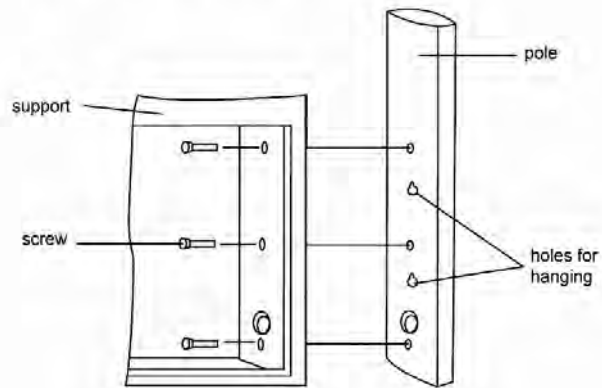

Fig. 2
2. Installation of Pole (Fig. 2)